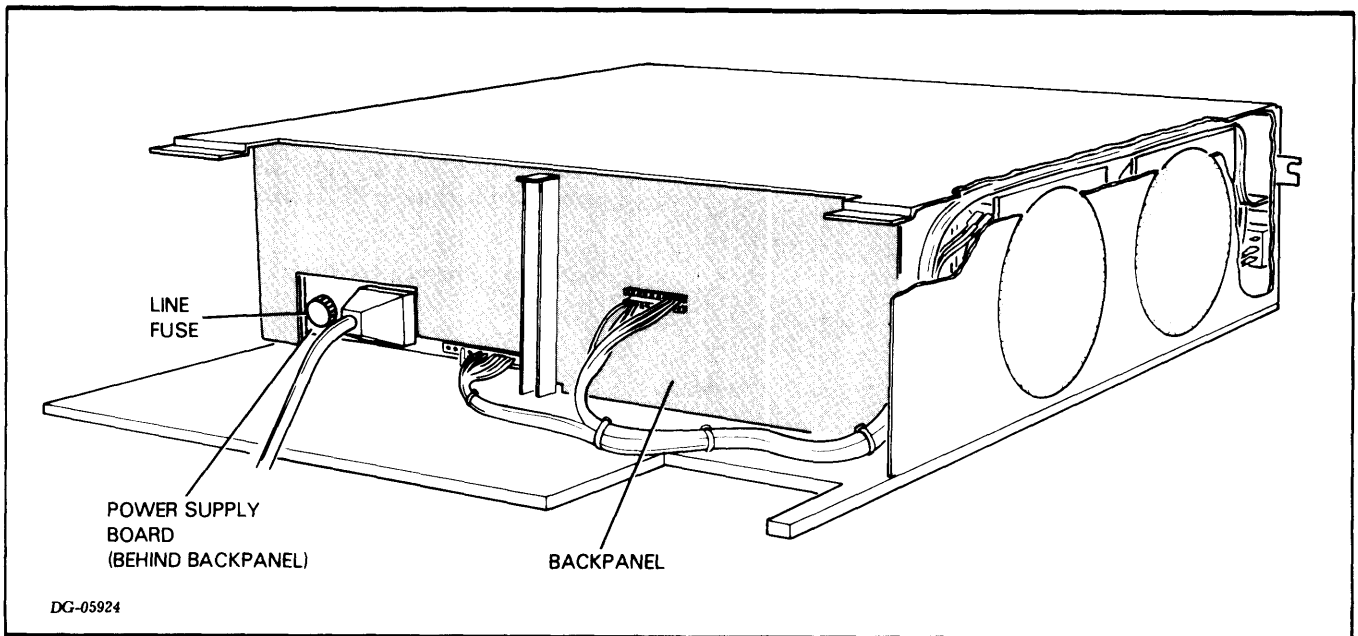

Figure 6.10 LINE FUSE FOR 5-SLOT POWER SUPPLY
9. Check the 7 Amp ac line fuse which screws into the left rear corner of the power supply board and extends through a cutout in the backpanel (see Figure 6.10).